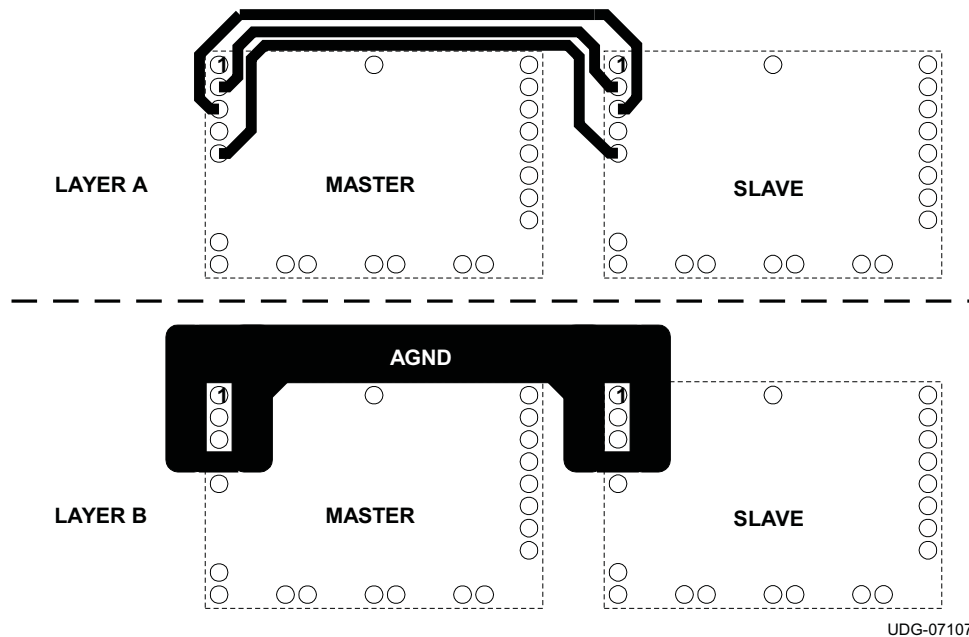

Figure 27. Recommended Layout of Inter-Connection Pins Between Two Current Sharing Modules
The PTH08T250W module is capable of being configured in parallel with another PTH08T250W module to share load current. To parallel the two modules, it is necessary to configure one module as the Master and one module as the Slave. To configure a module as the Master, connect the CONFIG pin (pin 1) to GND. The CONFIG pin of the Slave must be connected to V_I. In order to share current, pins 2 thru 5 of both the Master and Slave must be connected between the two modules. See Figure 27 for the recommended layout of pins 2 thru 5. The module that is configured as the MASTER is used to control all of the functions of the two modules including Inhibit ON/OFF control, AutoTrack sequencing, TurboTrans, SmartSync, +/- Remote Sense, and Output Voltage Adjust. See the current sharing diagram in Figure 22 for connections. The MASTER and the SLAVE must be powered from the same input voltage supply.
(1) For more details on the pin descriptions, refer the Pin Functions table.
(2) See Layer A in Figure 27 for recommended layout
(3) See Layer B in Figure 27 for recommended layout
In current sharing applications the V_I pins of both modules must be connected to the same input bus. The V_O pins of both modules are connected together to power the load. The GND pins of both modules are connected via the GND plane. Four other inter-connection pins are connected between the modules. Figure 27 shows the required layout of the inter-connection pins for two modules configured to share current. Notice that the Share (pin 2) connection is routed between the Comp (pin 3) and CLKIO (pin 5) connections. AGND (pin 4) should be connected as a thicker trace on an adjacent layer, running parallel to pins 2, 3 and 5. AGND must not be connected to the GND plane.